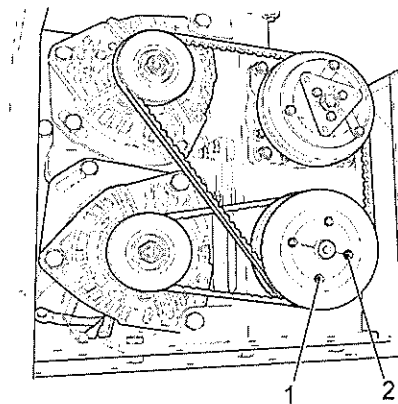

Fig 7 Hydraulic motor pulley
46.7.1 Remove the 2 off grub screws using an Allen key (see Fig 7 (1)).